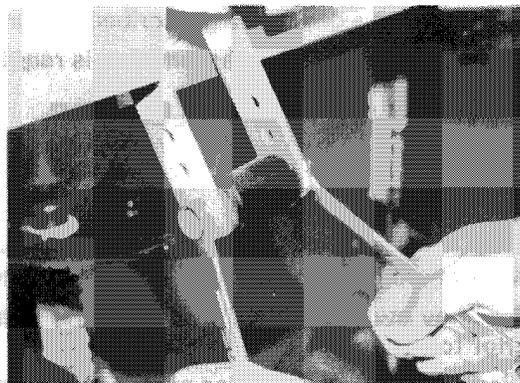

Figure 6-16
5. Remove lower spring shackle nuts and bolts (Figure 6-16).